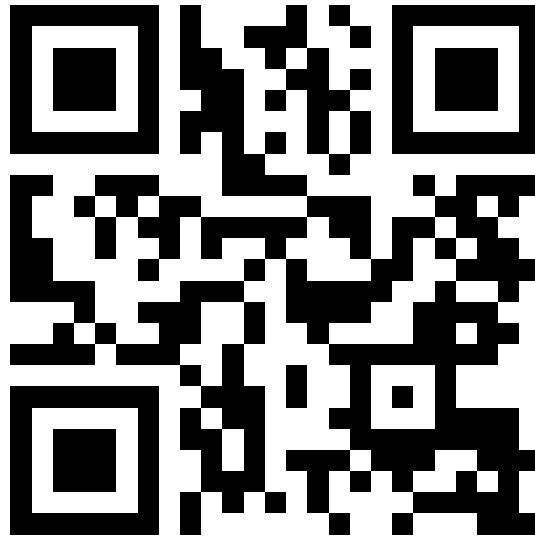

Figure 4 - 46 Center Frame Brace Installation Video Link
7. Scan Figure 4 QR Code to watch 46 Center Frame Brace installation demonstration video:
8. Locate, remove and discard the top two fasteners from the front left and front right positions of the Center Frame. Refer Figure 4.